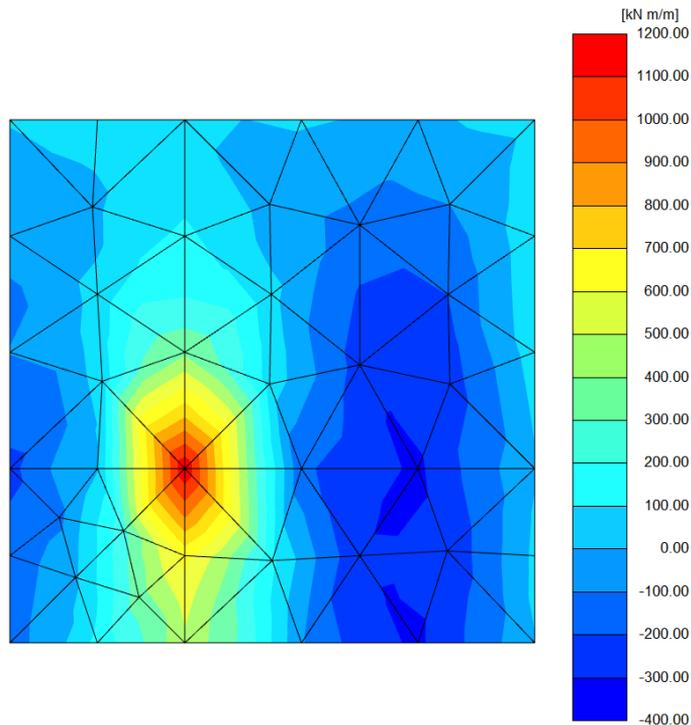

Figure 1.20 Bending moments in the basement floor
-  Click the *Shadings* button. The plot in Figure 1.20 will be displayed.